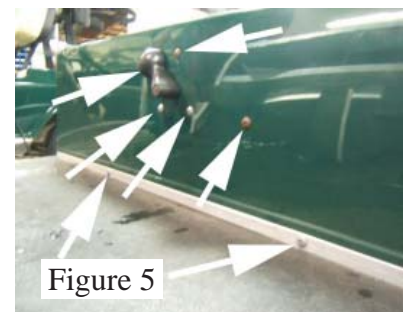

Figure 5
4. Remove the small screw holding the shift lever to the linkage and remove lever. Remove the four Phillips head screws holding the shift linkage to the body. Slide the shift linkage out of the body and set aside. Remove the two Phillips head screws holding the front of the body to the frame. (See Figure 5).